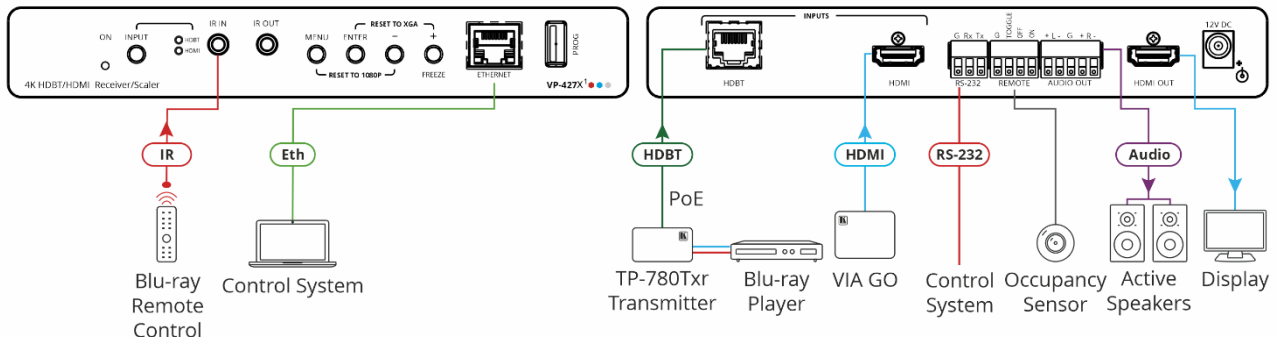

Figure 3: Connecting to the VP-427X1
To connect **VP-427X1** as illustrated in the example in Figure 3:
1. Connect an HDBT transmitter (for example, Kramer **TP-780Txr**) to the INPUT HDBT RJ-45 port (12) on the front panel. The transmitter is connected to a Blu-ray player.
2. Connect an HDMI source (for example, Kramer **VIA GO**) to the HDMI INPUT connector (13).
3. Connect the HDMI OUT connector (17) to an HDMI Acceptor (for example, a display).
4. Connect the REMOTE pins (15) to contact closure switches (for example, an occupancy sensor). See Connecting the Remote Control Switches on page 10.
5. Connect the AUDIO OUT 5-pin terminal block connector (16) to a balanced stereo audio acceptor (for example, Kramer **Tavor 5-O** active speakers).
6. Connect an IR sensor to the IR IN 3.5mm mini jack (4). In this example, point the Blu-ray remote controller to the sensor to control the Blu-ray that is connected to **TP-780Txr** via HDBT.
7. Connect a control system (for example, a laptop) to the ETHERNET RJ-45 port (10).
8. Connect a control system to the RS-232 3-pin terminal block connector (15). See Connecting to VP-427X1 via RS-232 on page 8.
9. If there is no PoE input, connect the power adaptor to the **VP-427X1** and plug the adaptor to the mains electricity (not shown in Figure 3).